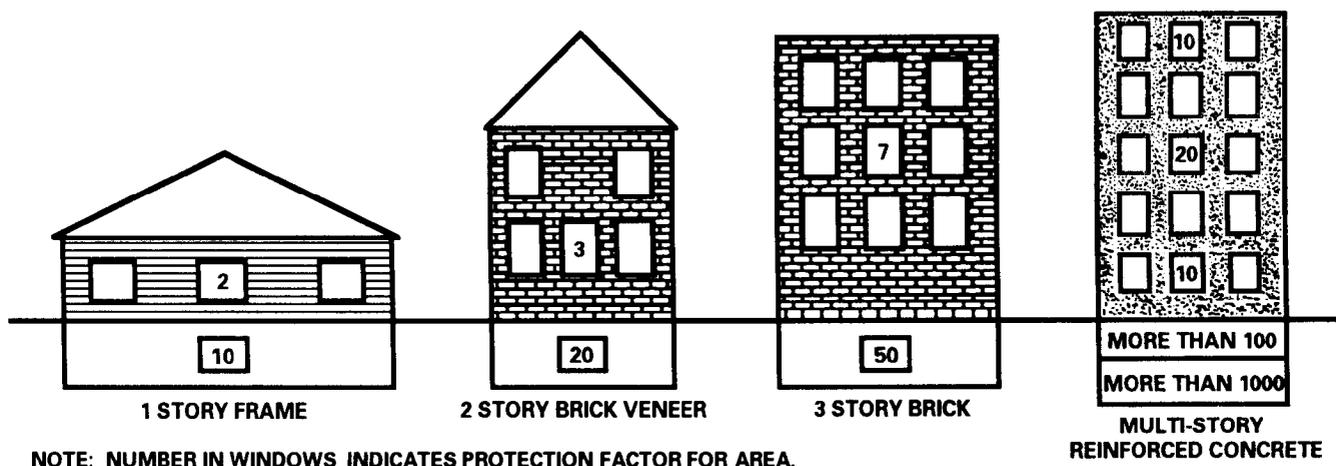

Figure B-1. Typical shelter protection provided in different buildings.
a. In many cases it will be unnecessary to construct field expedient or other types of fallout shelters. There are many structures and terrain features available that afford a degree of fallout protection. Tunnels, caves, culverts, overpasses, ditches, ravines, and man-made structures are examples of existing fallout shelters. The best existing shelter is basements. Figure B-1 shows typical shelter protection provided in different buildings. Windows can be sandbagged or covered with dirt from the outside to provide additional protection.